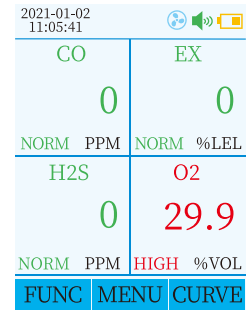

Fig. 5
4.3.3 When the detected gas concentration is higher than the set high alarm value, the detector is in the high alarm state, at this time the buzzer emits "beep,beep,... every 0.25s". the red indicator light flashes synchronously, and the color of the gas concentration value changes to red on the screen. The backlight and the vibrator also open at the same time, indicating the high alarm; long press the  button to release the audible alarm. but there is still an alarm message. The buzzer will resume ringing until the new alarm is triggered, and the alarm light and vibrator will resume operation. When the gas concentration value detected by the detector returns below the low alarm value, the gas concentration value turns green and the alarm signal is automatically released. When the alarming, the detector is shown in Figure 5.